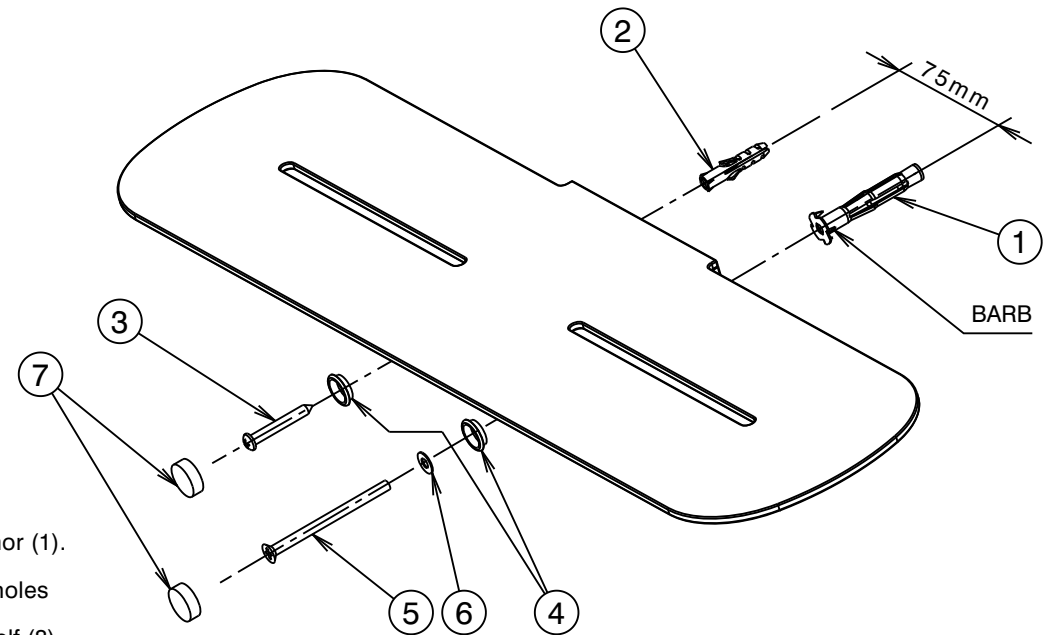

Fig. 1
- \* Wall anchor (1) is only suitable for use in cavity walls with a tiled surface. If installing into a plasterboard cavity wall (untiled) it is recommended that bathroom shelf be attached to the wall in line with a stud or noggin using suitable screws.
- \* Centre to centre of mounting holes is 75mm (Fig. 1)